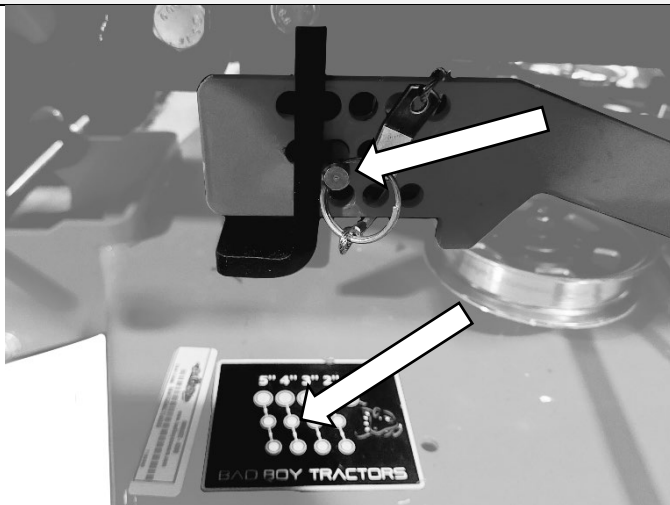

Figure 4D
6. Set deck height stop. Using 2x4s, lower the deck down onto the 2x4s be sure they are not resting on the blades. A standard 2x4 is $3\frac{1}{2}$ " so with that height plus the $\frac{1}{4}$ " of the deck bumper this will put the blades $3\frac{3}{4}$ " off the ground. Place stop pin in the $3\frac{3}{4}$ " hole as shown (Figure 4D).